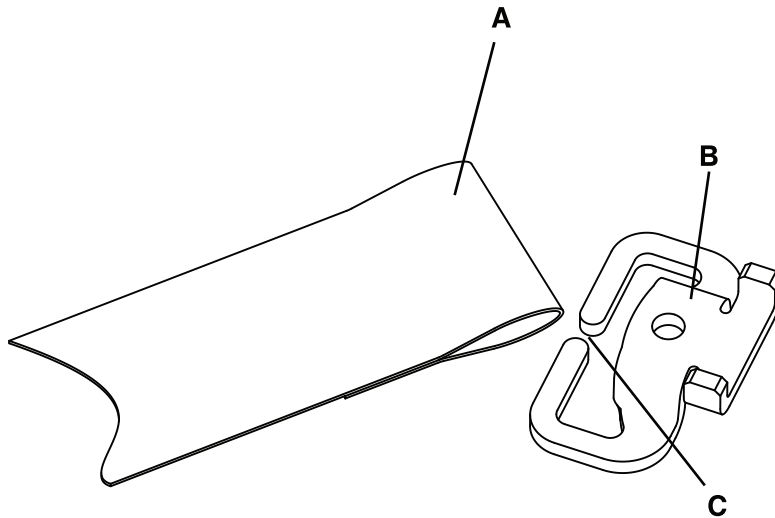

Figure 35: Lap belt removal
1. With one hand, grasp the end of the belt attached to the bracket (A). With the other hand, grasp the bracket (B) (Figure 35 on page 54).
2. Squeeze the belt loop at the bracket and manipulate it through the slot (C) on the bracket to remove the belt (Figure 35 on page 54). Discard the belt.